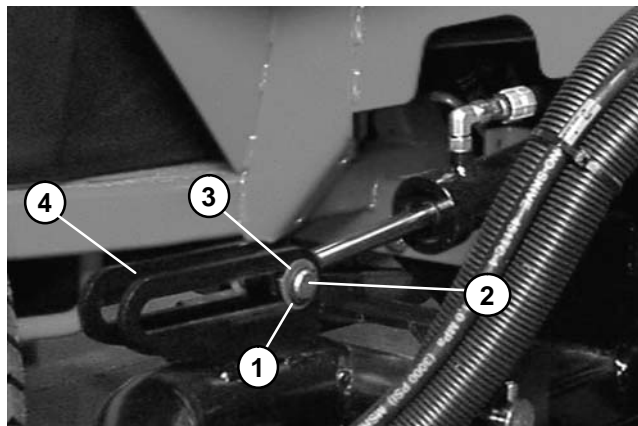

Figure 95
A. Remove retaining ring from the cylinder rod end pin. Remove cylinder pin with remaining retaining ring and thrust washers from the lift arm and cylinder clevis (Fig. 95).